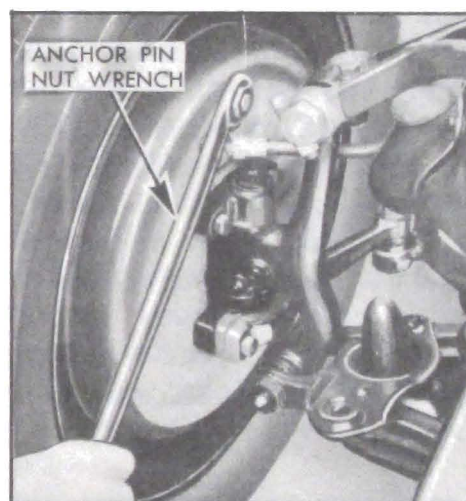

Figure 8-9—Using Anchor Pin Nut Wrench J 854
4. Check all anchor pin nuts with 16" Wrench J 854 to make certain nuts are tight. See figure 8-9. If an anchor pin nut is found loose, reset anchor pin to centralize brake shoes as instructed in paragraph 8-15, step 17.
12. Check all backing plate attaching bolts to make sure they are tight. Check anchor pin nuts for tightness, using Wrench J 854 (fig. 8-9).
(a) Using Wrench J 854 (fig. 8-9), loosen anchor pin nut just enough so that pin can shift in slotted hole in backing plate. If nut is loosened too much, the anchor pin will tilt due to pull of brake shoe springs.